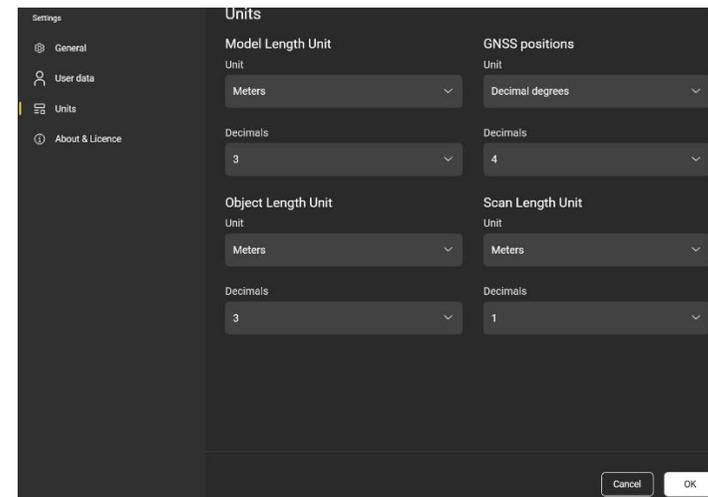

Fig. 18 Measurements Units
3. **MEASUREMENTS UNITS:** Select Units information (Fig. 18),